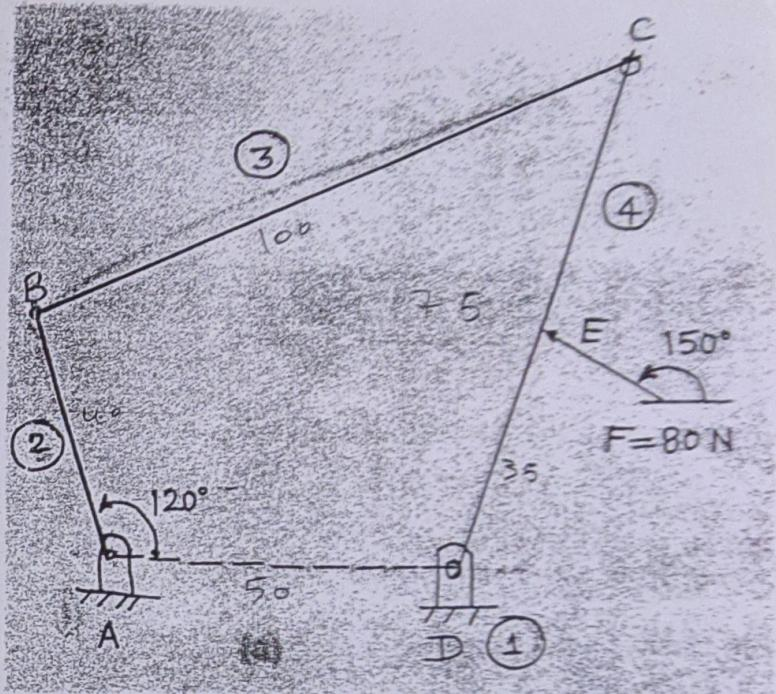

Figure 2
- A four link mechanism with the following dimension is acted upon by a force 80 N at angle 150° on link DC (Figure 2):